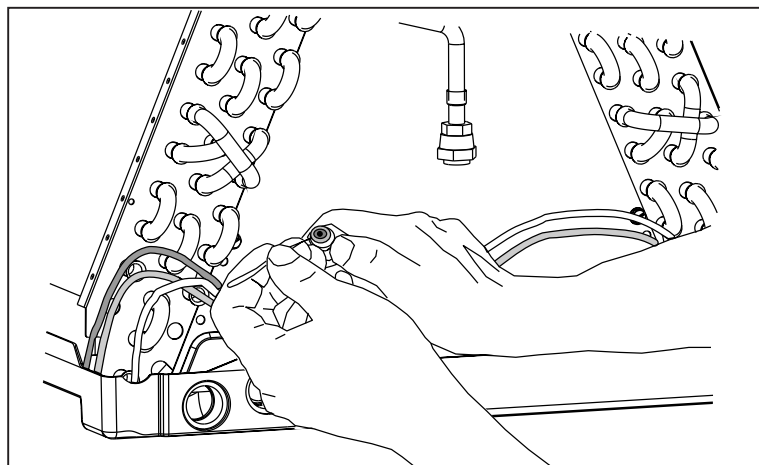

Figure 4. Removal of Orifice
3. Insert a light-gauge wire hook between the distributor body and the restrictor orifice to lift the orifice out of the body. (See Figure 4) Remove the restrictor orifice being careful not to scratch either part.